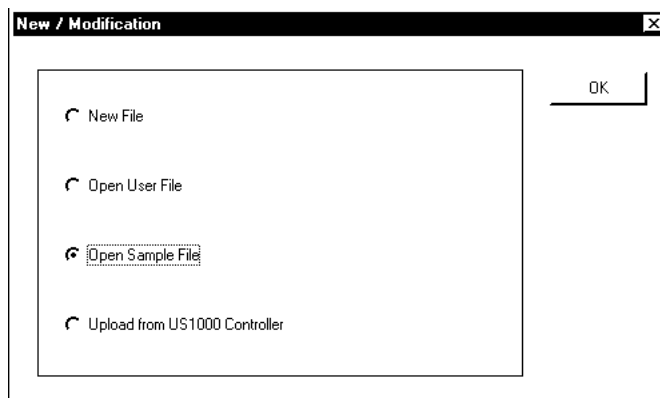
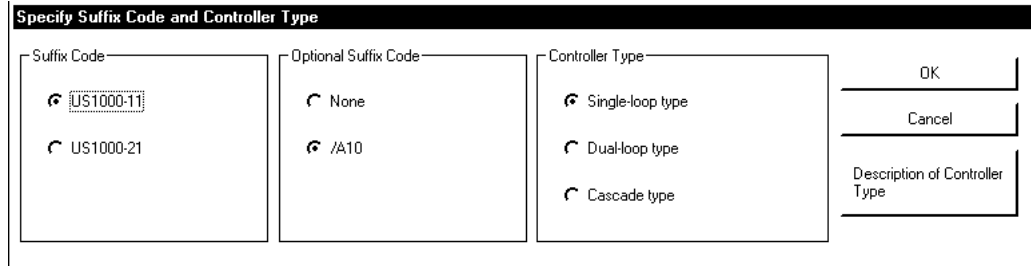
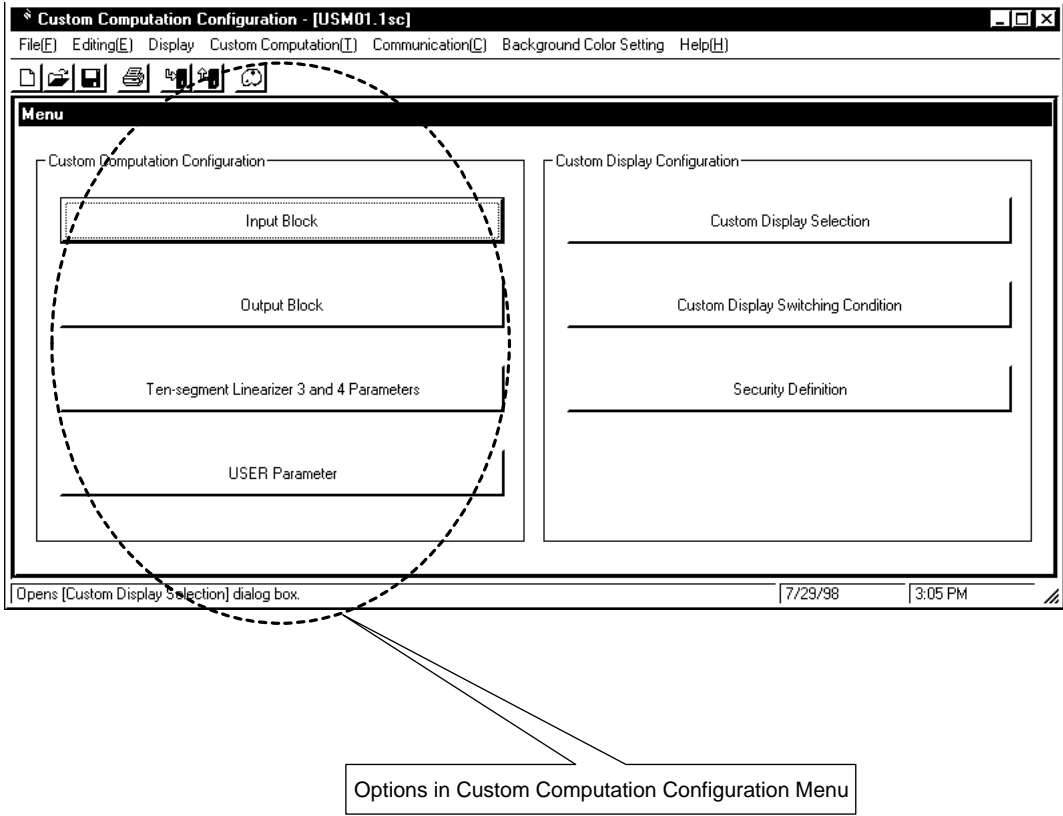

Figure 4.1.2 [New/Modification] Dialog Box
Figure 4.1.3 [Specify Suffix Code and Controller Type] Dialog Box
Figure 4.1.7 [Custom Computation Configuration Menu] Dialog Box
Click the <Custom Computation Building Tool> option button, and then the <OK> button. The [New/Modification] dialog box (Figure 4.1.2) appears.
- ① If you are configuring a custom computation from scratch, choose <New File>. Click the <New File> option button, then the <OK> button. The [Specify Suffix Code and Controller Type] dialog box (Figure 4.1.3) appears.
If you choose <New File> in the [New/Modification] dialog box (Figure 4.1.2), the [Specify Suffix Code and Controller Type] dialog box (Figure 4.1.3) appears. This dialog box also appears if you choose <Open Sample File>.
In the [Specify Suffix Code and Controller Type] dialog box, click the <OK> button. The [Custom Computation Configuration Menu] dialog box (Figure 4.1.7) appears.
In the [Open User File] dialog box, choose the file you wish to use and click the <Open> button. The [Custom Computation Configuration Menu] dialog box (Figure 4.1.7) appears.
In the [Open Sample File] dialog box, choose the file you wish to use and click the <Open> button. The [Specify Suffix Code and Controller Type] dialog box (Figure 4.1.3) appears. In the dialog box, click the <OK> button. The [Custom Computation Configuration Menu] dialog box (Figure 4.1.7) appears.
- ① In the [Upload from US1000 Controller] dialog box, click the <Front Terminal> option button.
- ③ Click the <Execute> button. Data are uploaded from the US1000 controller.
- ④ When uploading is complete, the [Custom Computation Configuration Menu] dialog box (Figure 4.1.7) appears.
- ① In the [Upload from US1000 Controller] dialog box, click the <Rear Terminal> option button.
- ③ Click the <Execute> button. The LL1200 tool begins uploading data from the US1000 controller.